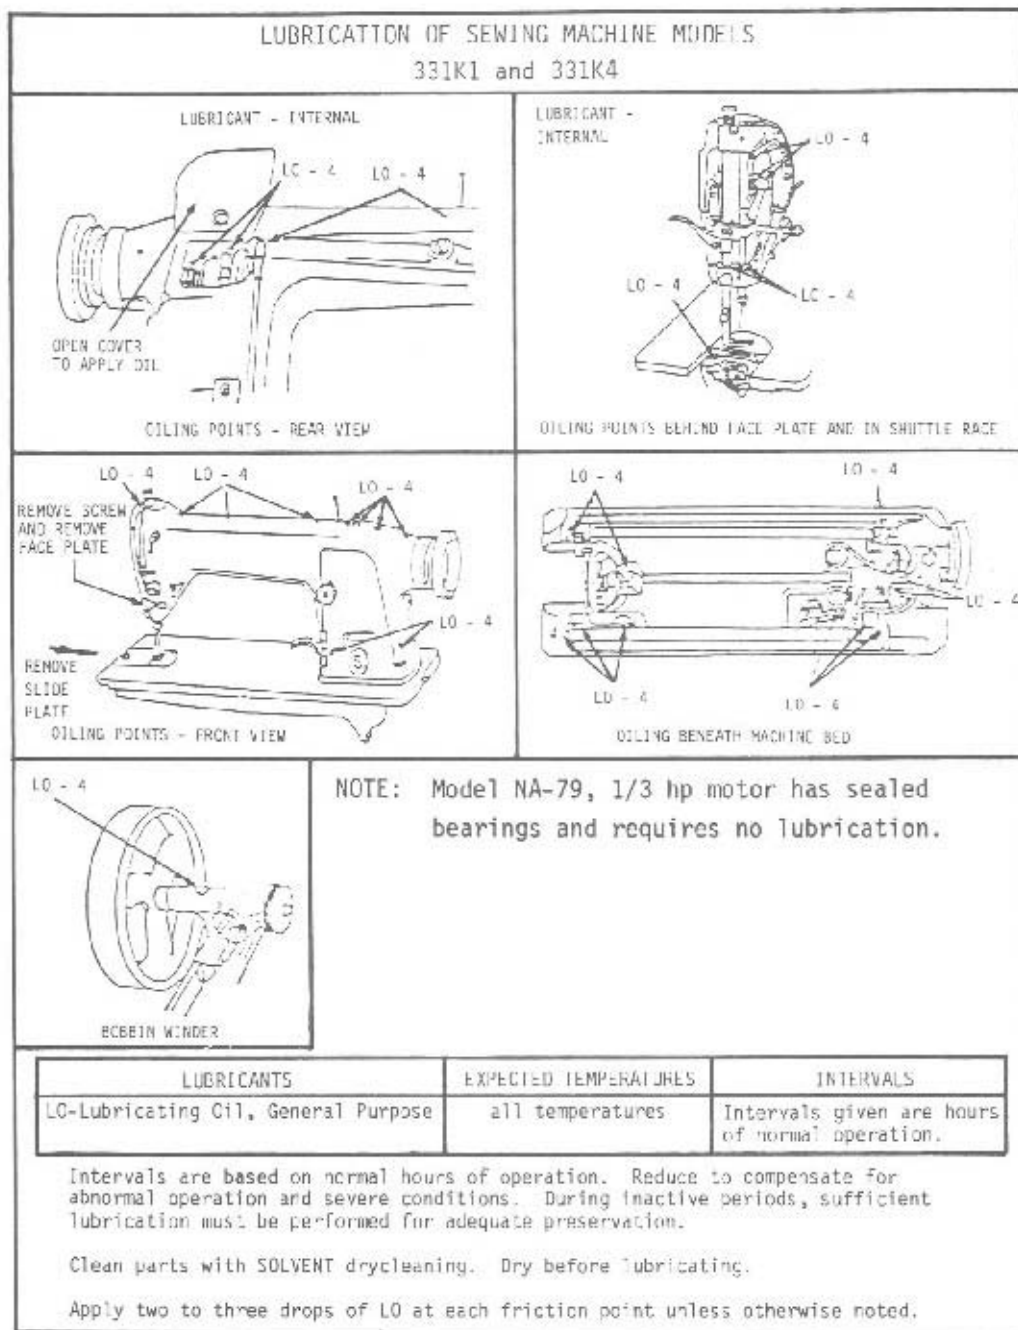

Figure 3-82
- (1) Place a bobbin on the bobbin spindle.
- (2) Use a cone of thread on the right side of the thread stand. Put the thread over and through the thread guide un-winder.
- (3) Bring the thread down and through the hole in the tension bracket on the bobbin winder.
- (4) Place the thread on the back of the tension bracket. Pull the thread between the tension disks.
- (5) Bring the thread from the lower side of the tension disks to the bobbin.
- (6) Pass the thread around the bottom side of the bobbin. Wind the end of the thread around the bobbin several times.(See Figure 3-82)